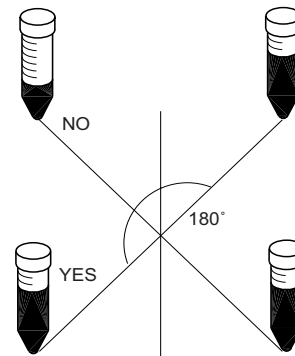

figure 3
5.2.3 To correctly distribute the load, tubes and adapters should be placed so that the load is symmetrically distributed with respect to the axis of rotation. (see fig. 3)